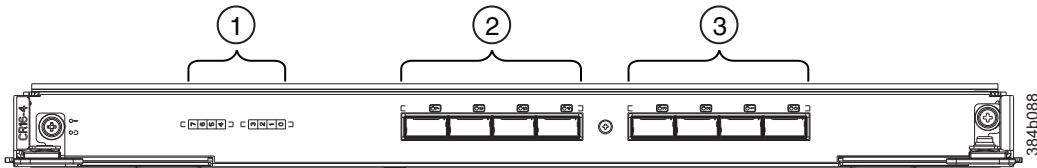

Figure 52. CR16-4 core blade
- Figure 52 shows a CR16-4 core blade